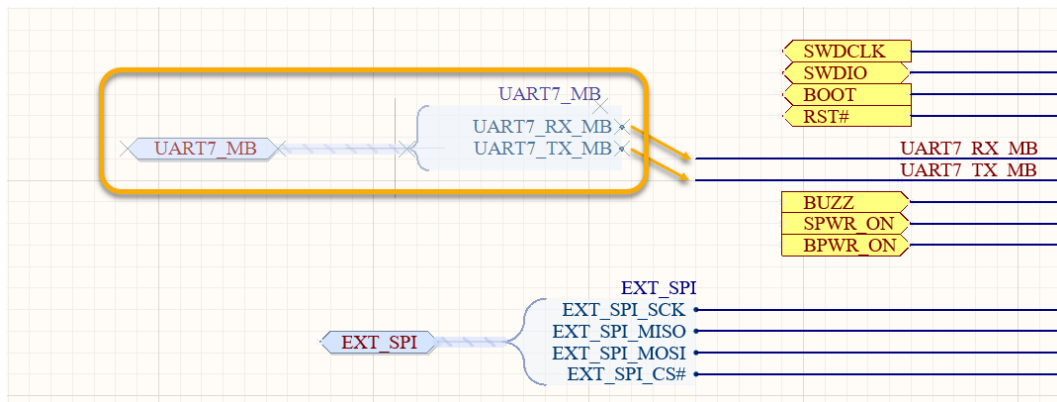

Figure 12. Matching UART7\_MB Harness on Sheet 2\_mb\_conn.SchDoc
23. Align the Harness Entries with the associated wires as shown in Figure 12.